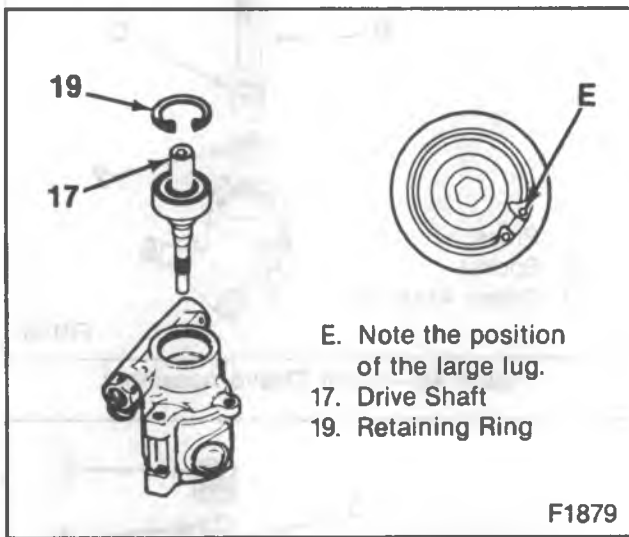

Figure 32—Remove and Install Retaining Ring
- 17. Retaining ring (19). Use a suitable pair of snap ring pliers (figure 32).
- Make sure the beveled side of ring (19) is properly located.
- 18. Flow control spring (20).
- 19. Flow control valve (21).
- 20. O-ring seal (22).
- 21. O-ring (25).